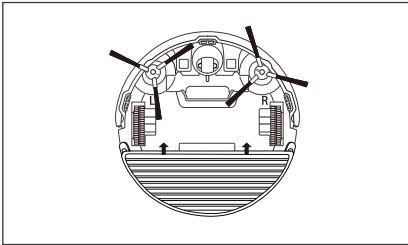

Figure 1
2. The mop bracket with mop should be on the robot when the water tank is used. (Figure 1)